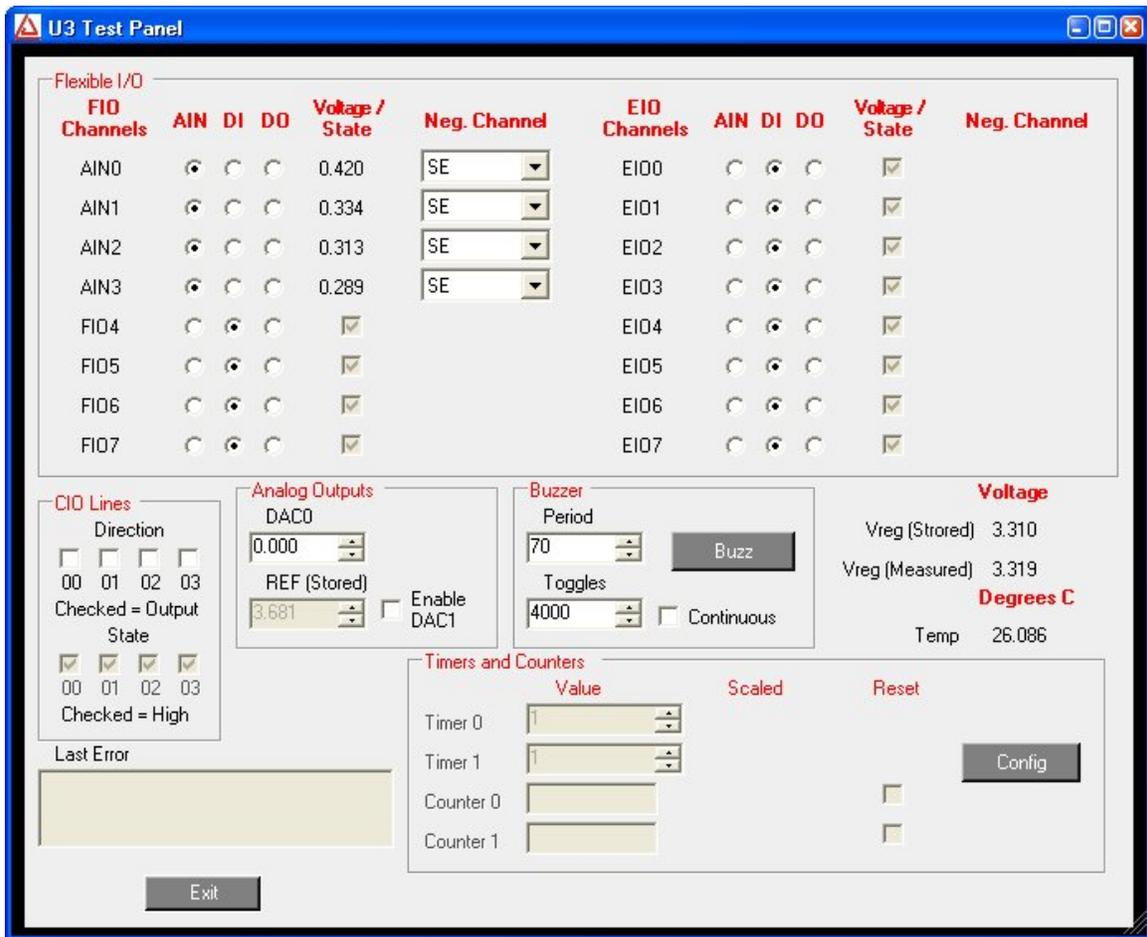

Figure 1-2. LJControlPanel U3 Test Window
- Test: Opens the window shown in Figure 1-2. This window continuously writes to and reads from the selected LabJack.